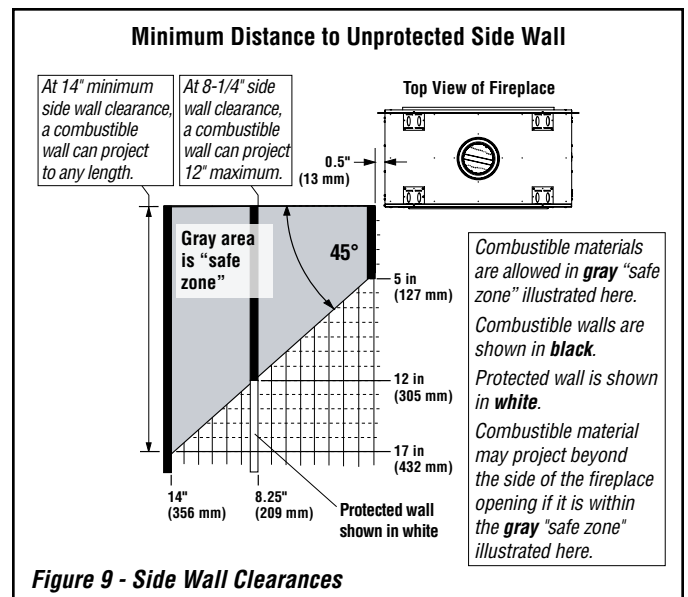

Figure 9 - Side Wall Clearances
- Combustible material may project beyond the sides of the fireplace opening, as long as it is within the shaded area shown in **Figure 9 on Page 11**.